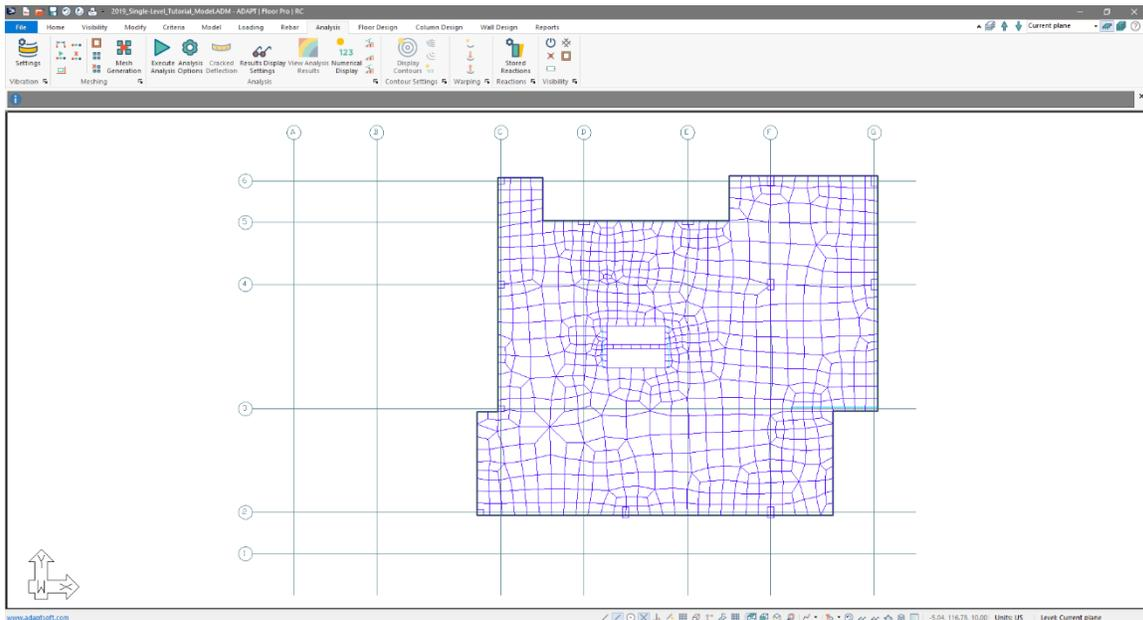

Figure 3-3
- When the program completes the meshing procedure, click on the *Top View*  icon in the **Bottom Quick Access Toolbar**. This will bring you to the view of the model shown in **FIGURE 3-3**.